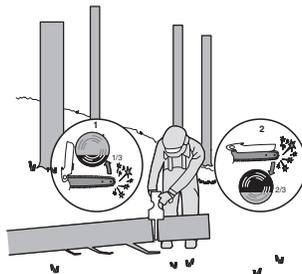

Figure 3
When the log is supported on one end, as illustrated in Figure 3, cut 1/3 the diameter from the underside (underbuck) (1). Then make the finished cut by overbuckling (2) to meet the first cut.